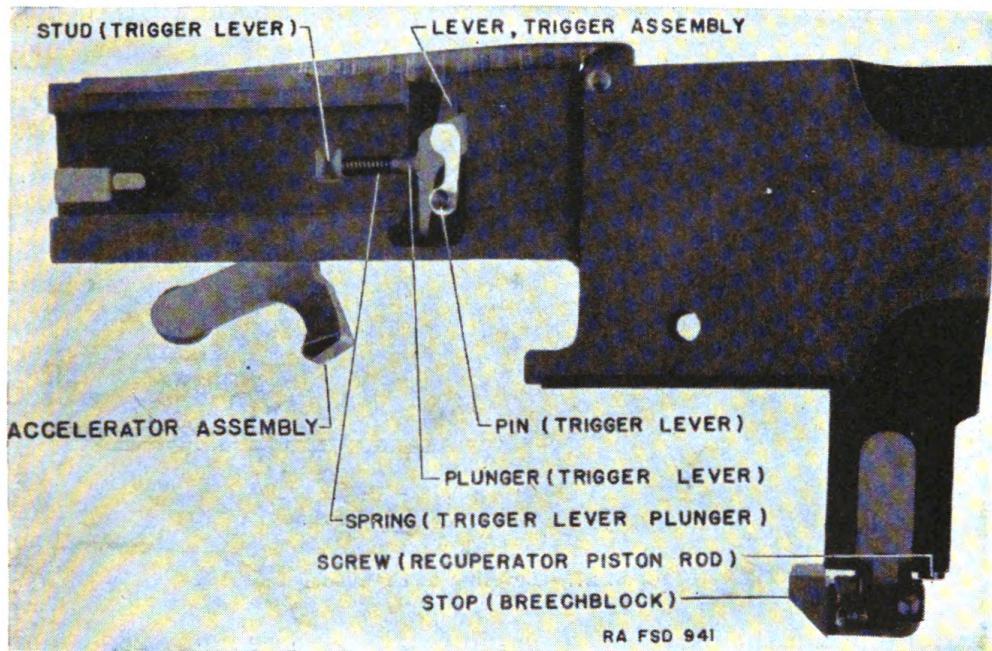

FIGURE 25.—Tube extension (left side view).
Q. Point out the parts shown in figures 25 and 26. A. See figures 25 and 26.
Q. Explain how to remove and replace the tube extension. A. See figures 25 and 26.
A. See figures 25 and 26.